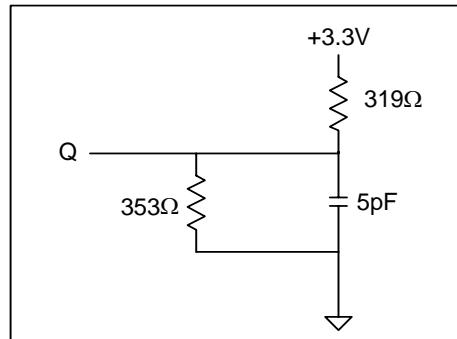

Figure 2
3. The load used for VOH, VOI testing is shown in Figure 2. AC load current is higher than the shown DC values.
2. Output loading is specified with $C_1 = 5\text{pF}$ as in Figure 2.